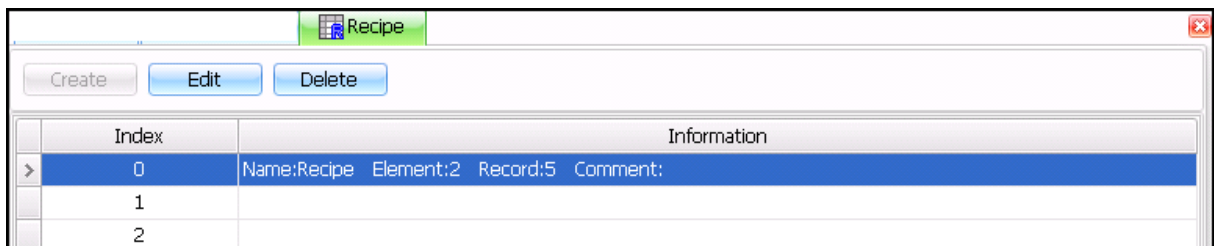

Figure 8.4.4
(4) Recipe is finished, when the recipe is showed as figure 8.4.4 below.